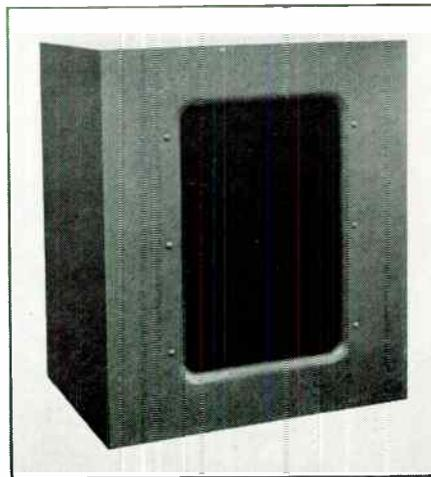

FIG. 6. THIS CABINET IS OF 6 CU. FT.
2. The medium-size cabinet, Fig. 6, is 30 by 25 by 18 ins., with a volume of 6 cu. ft. Its port area is 60 sq. in. and it radiates down to 60 cycles.